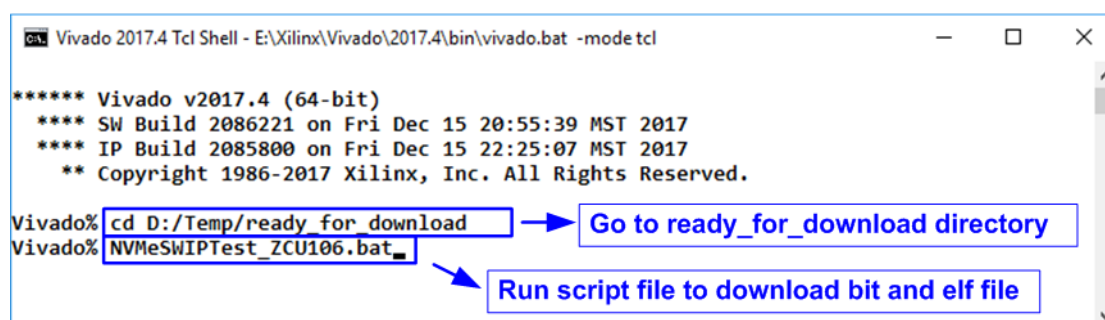

Figure 2-10 Command script to download demo file on Vivado TCL shell
- b) For ZCU106 board, open Vivado TCL shell, change directory to ready_for_download or directory that batch file is located. Next, type NVMeSWIPTest_ZCU106.bat, as shown in Figure 2-10.